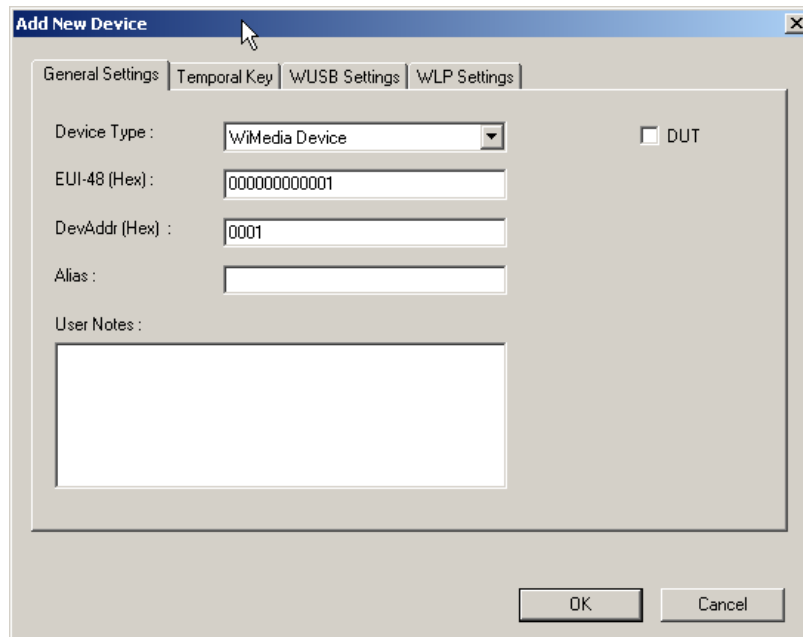

Figure 11.8 Add New Device Dialog Box General Settings Tab Fields
Step 2 Enter information in the correct format in the fields on the General Settings tab (see Figure 11.8).